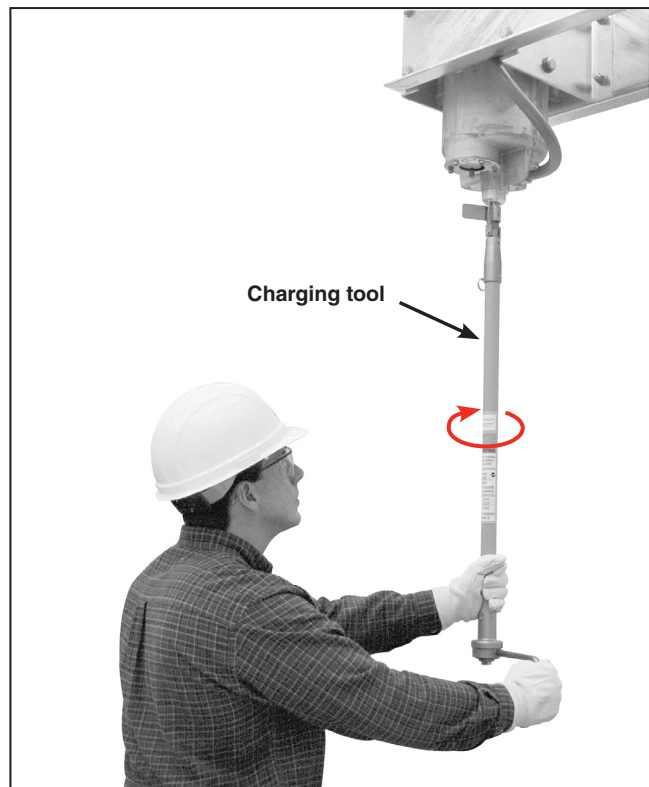

Figure 16. Rotate the tool handle clockwise until the internal stop is reached.
STEP 9. Rotate the charging tool handle *clockwise*, as indicated on the tool, to reset the pole-unit mechanism. See Figure 16. Approximately 40 revolutions are needed. Keep turning until the internal stop is reached, and then remove the charging tool.